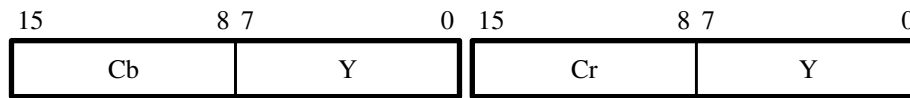

Figure 20. YCrCb 4:2:2 Color Space.
- YCrCb 4:2:2 — This format has only half of the Cr and Cb components. Each consecutive pixel has alternating Cr or Cb components, with the first pixel in the frame starting with the Y and Cb pixel. Figure 20 shows two consecutive pixels for this format. This mode is defined as 8 bits per color and two color planes.